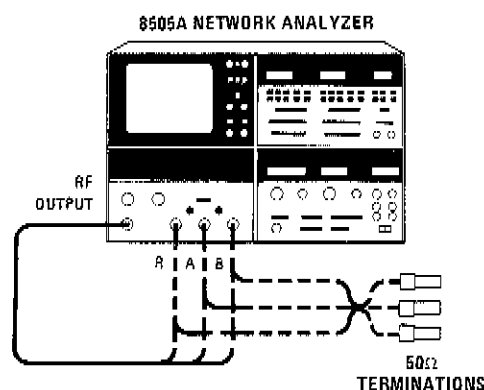

Figure A2-15. Crosstalk Isolation and Noise Floor Test Setup
- n. Connect equipment as shown in Figure A2-15, with RF OUTPUT cable connected to "R" input and the two 50-Ohm terminations to "A" and "B" input ports. Set OUTPUT LEVEL dBm switch to -10 dBm.